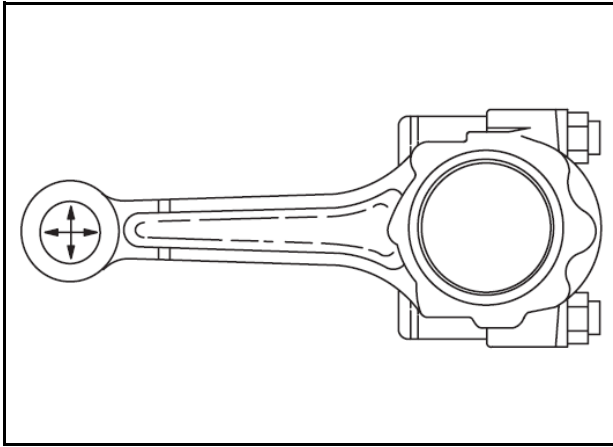

Fig. 7 -Checking Piston Pin Bearing
2. Check piston pin bearing, Fig. 7.